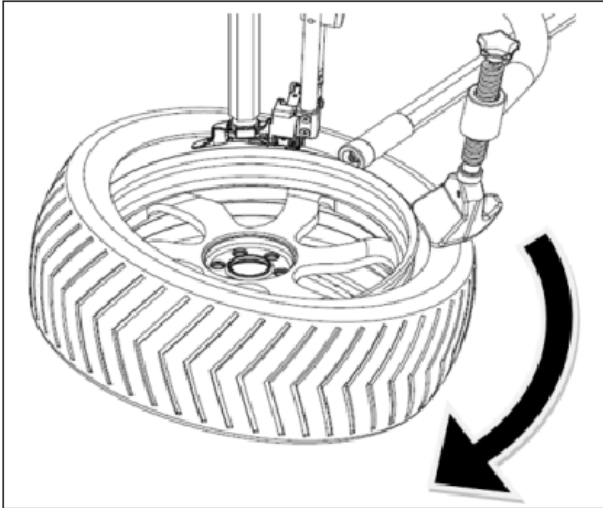

FIG 14
5.2.2 Lubricate the lip then tilt the tire onto the rim. Position the lower bead above the tail of the tool head and lower than the head of tool head (FIG14).